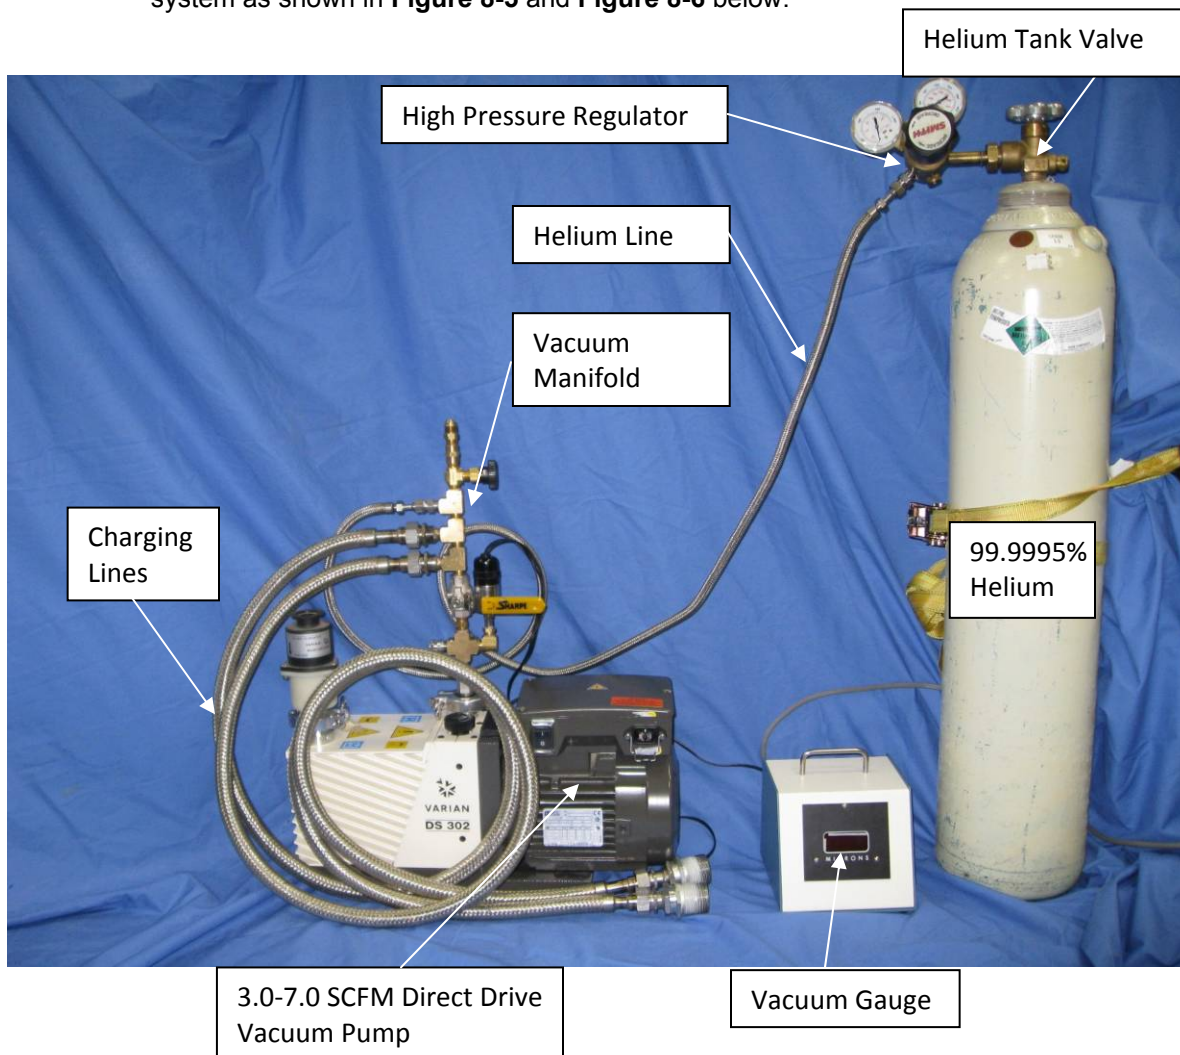
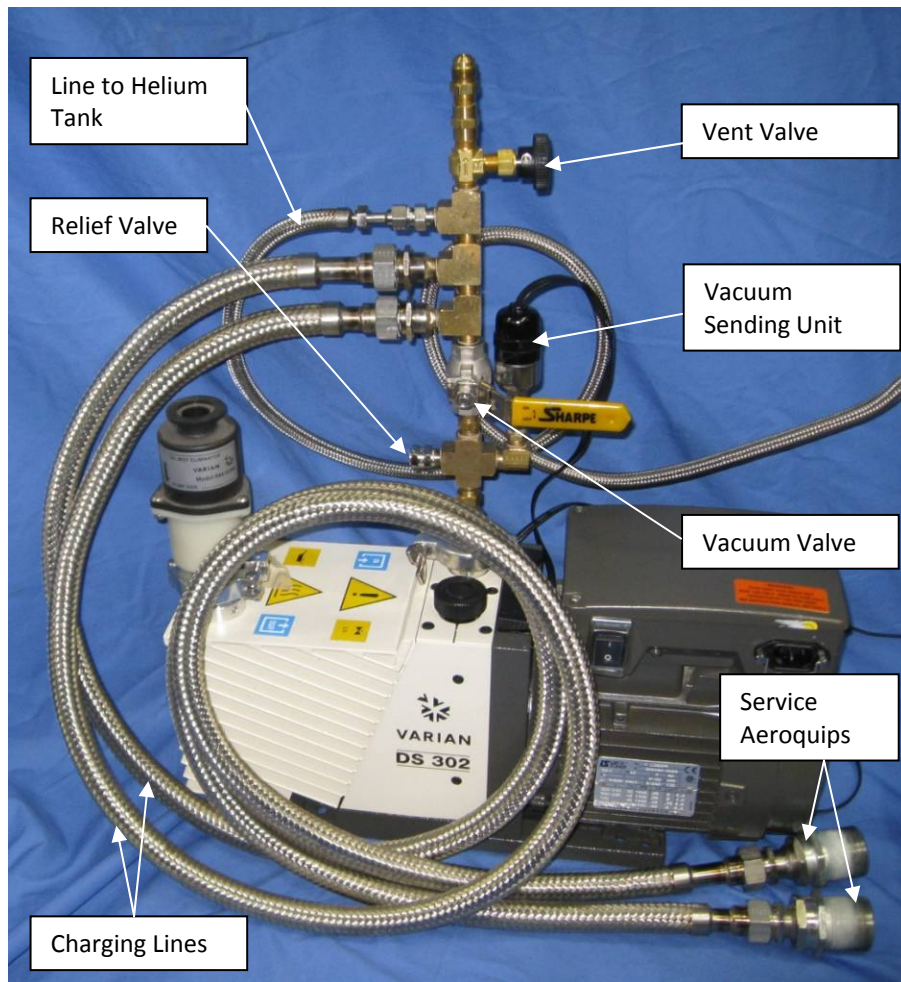

Figure 8-5: Vacuum/charging system
Figure 8-6: Close up of vacuum/charging manifold and pump
7. Attach a charging line from the service Aeroquip® to a typical vacuum/charging system as shown in **Figure 8-5** and **Figure 8-6** below.
5. Attach the opposite end of the evacuation/charging line to a typical vacuum/charging system as shown in **Figure 8-5**.